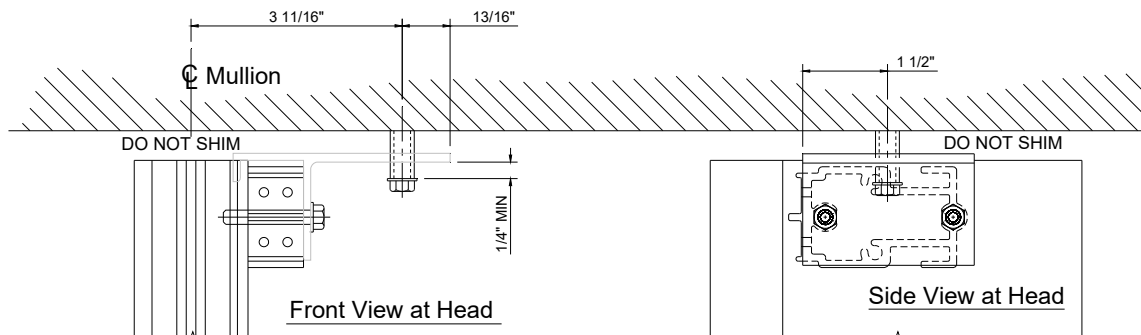

Figure 38: Shear Block Anchorage at Head (Captured Mullion Shown; SSG Mullion Similar)
- 11.3 When using shear block anchors, install pipe sleeve anchor at Head to allow for thermal movement of the Verticals. See *Figure 38*.